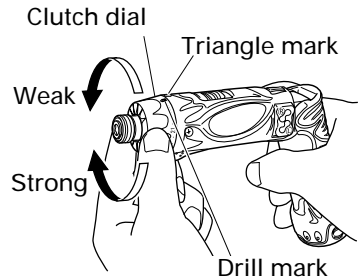

Fig. 8
6. Confirm the clutch dial position (see Fig. 8).
(2) Tightening torque indication (See Fig. 8)
(3) Adjusting the tightening torque (See Fig. 8)